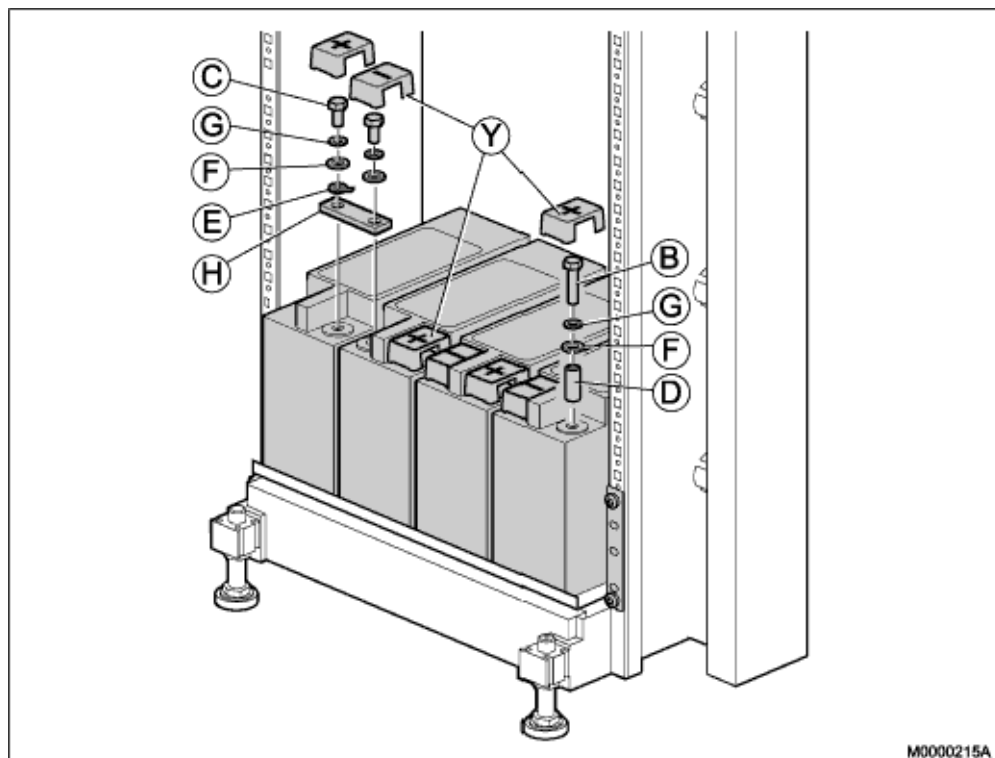
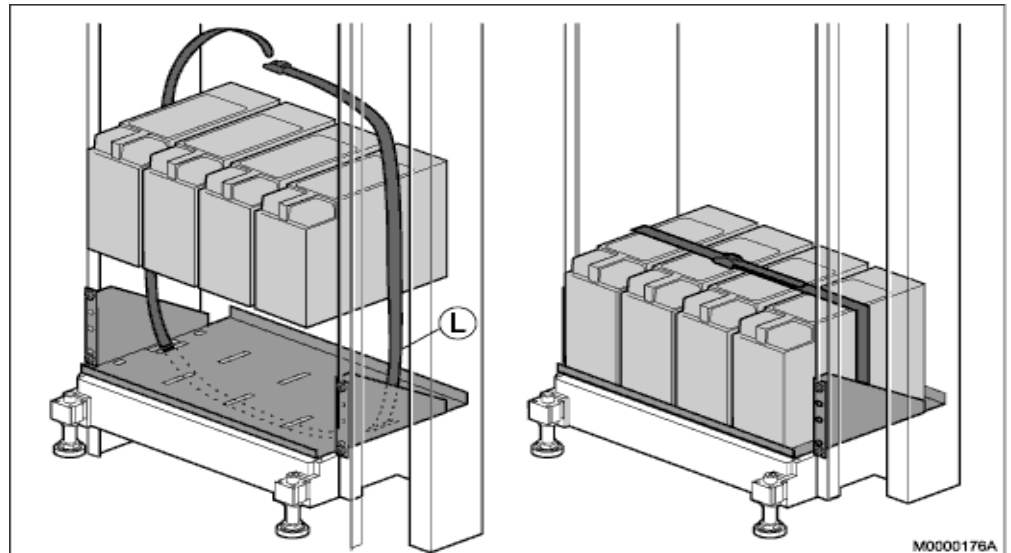

Figure 15: Installing the Batteries
Figure 16: Battery String Safety Strap
2. Place the safety strap through the slots in the battery shelf, see Figure 16: Battery String Safety Strap on page 23.
3. Place the batteries on the shelf, see Figure 15: Installing the Batteries on page 22. Make sure the front side of the batteries with the contact poles and the labels is facing the cabinet front.
5. Connect the batteries to each other by applying the connector bridge (H), plain washer (F), spring washer (G), by using the pole screws (C) from the batteries.
6. For measuring 12, 24, and 36 V DC insert three contact washers with flat lug terminals (E) on top of each connector bridge.
8. Apply the metal tube spacer (D), plain washer (F), spring washer (G), and 25-mm screw (B) on the plus pole of the rightmost battery block (do not tighten).
9. Apply the metal tube spacer (D), plain washer (F), spring washer (G), and 25-mm screw (B) on the minus pole of the leftmost battery block (do not tighten).
10. Position insulating pole covers (Y) on each of the four batteries, and press them down.
11. Place the strapping belt (L) around the batteries and tighten the strap, see Figure 16:Battery String Safety Strap on page 23.